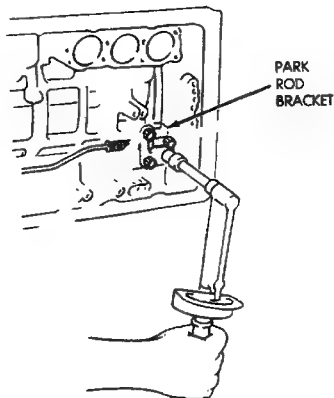

Fig. 26 Installing Park Rod Bracket
- (16) Install park rod bracket (Fig. 26). Tighten bracket bolts to 10 N·m (7 ft-lbs) torque.